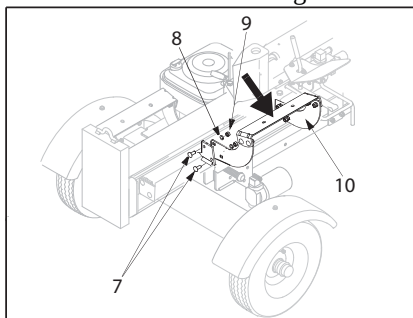

Fig. 8
- Unscrew the support (10) from the splitting column, on the side of the control valve. Fig. 8